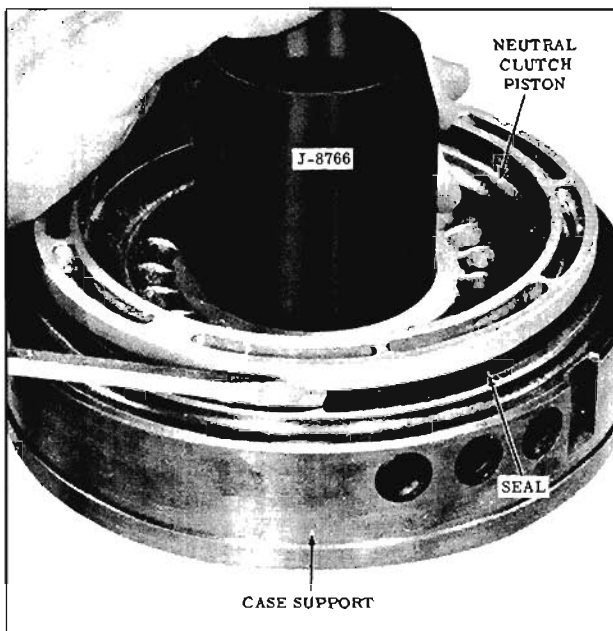

Fig. 6-62 Installing Neutral Clutch Piston
2. Install Inner Seal Protector J-8766 over neutral clutch hub. (Fig. 6-62)